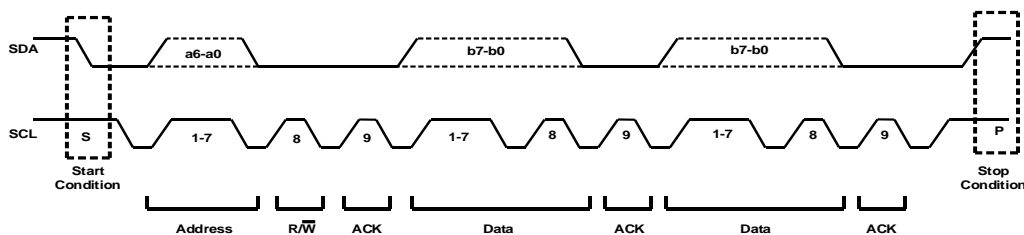

Figure 7: Data Transfer Over the PMBus
The start and stop commands are signaled by the master device, which signifies the beginning and end of the PMBus transfer. A start (S) command is defined as the SDA signal transitioning from high to low while SCL is high. A stop (P) command is defined as the SDA signal transitioning from low to high while SCL is high (see Figure 7).